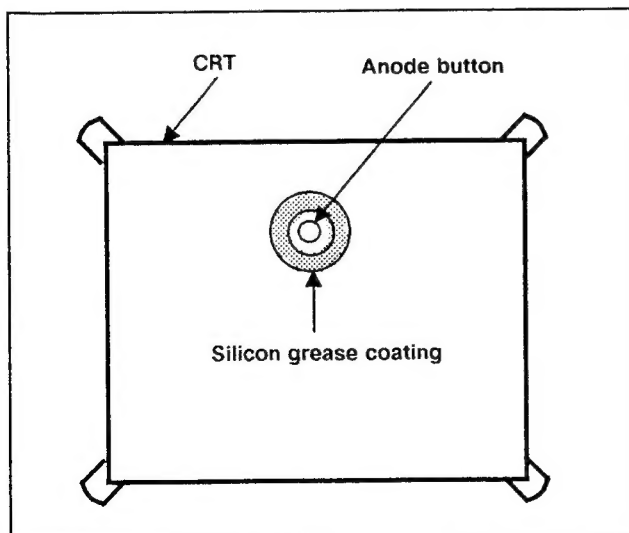

Fig. 6
- Subsequent to replacement of the CRT and HV transformer or repair of the anode cap, etc. by dismantling them, be sure to coat silicon grease for electrical insulation as shown in Fig. 6. Wipe around the anode button with clean and dry cloth. (Fig. 6)